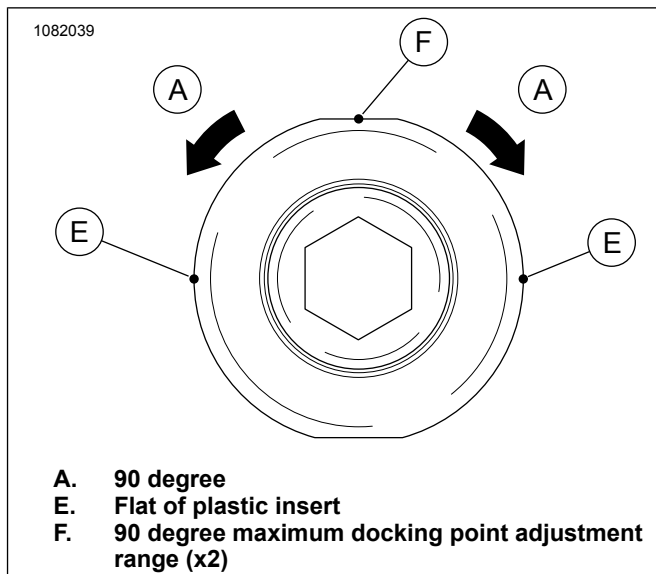

Figure 2. Docking Point Flats
- See flats (F) in Figure 2. Continue rotation in small increments and check accessory fit until desired tightness is achieved.